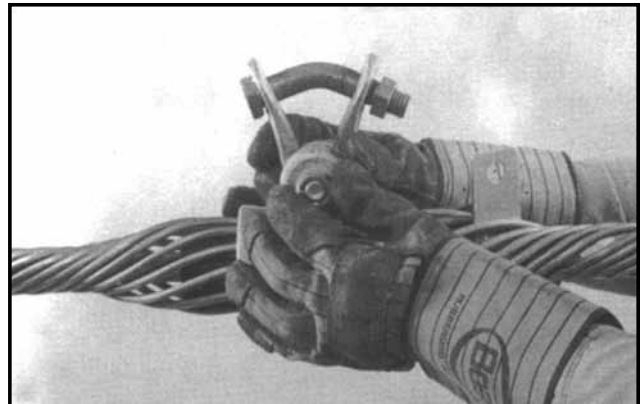
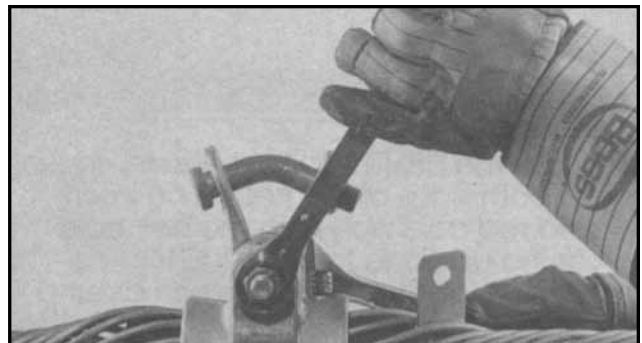

Figure 10
Figure 11
- 3.09** Apply the locking nut (Figure 10). Tighten until the lock washer is almost flat (Figure 11).